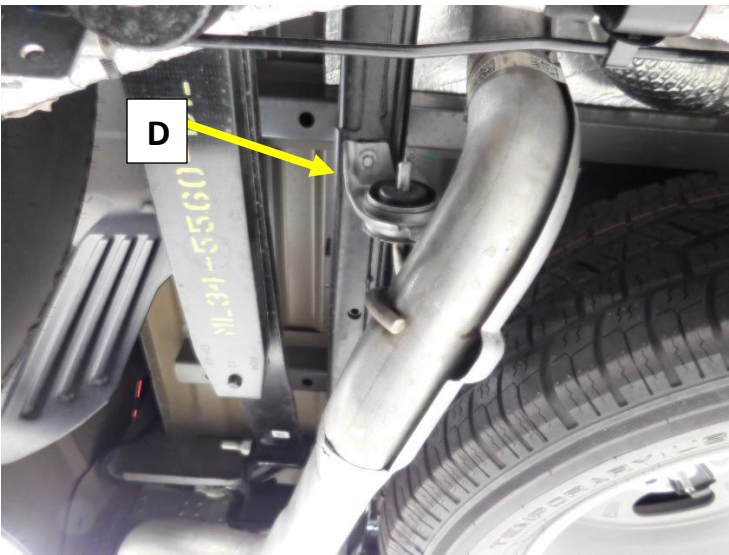

Figure.8
6. Install the right tailpipe frame hanger (**D**) on to the tail pipe hanger rod , align the bolt holes to the clip nuts in the frame rail and install the bolts. **Fig.8**